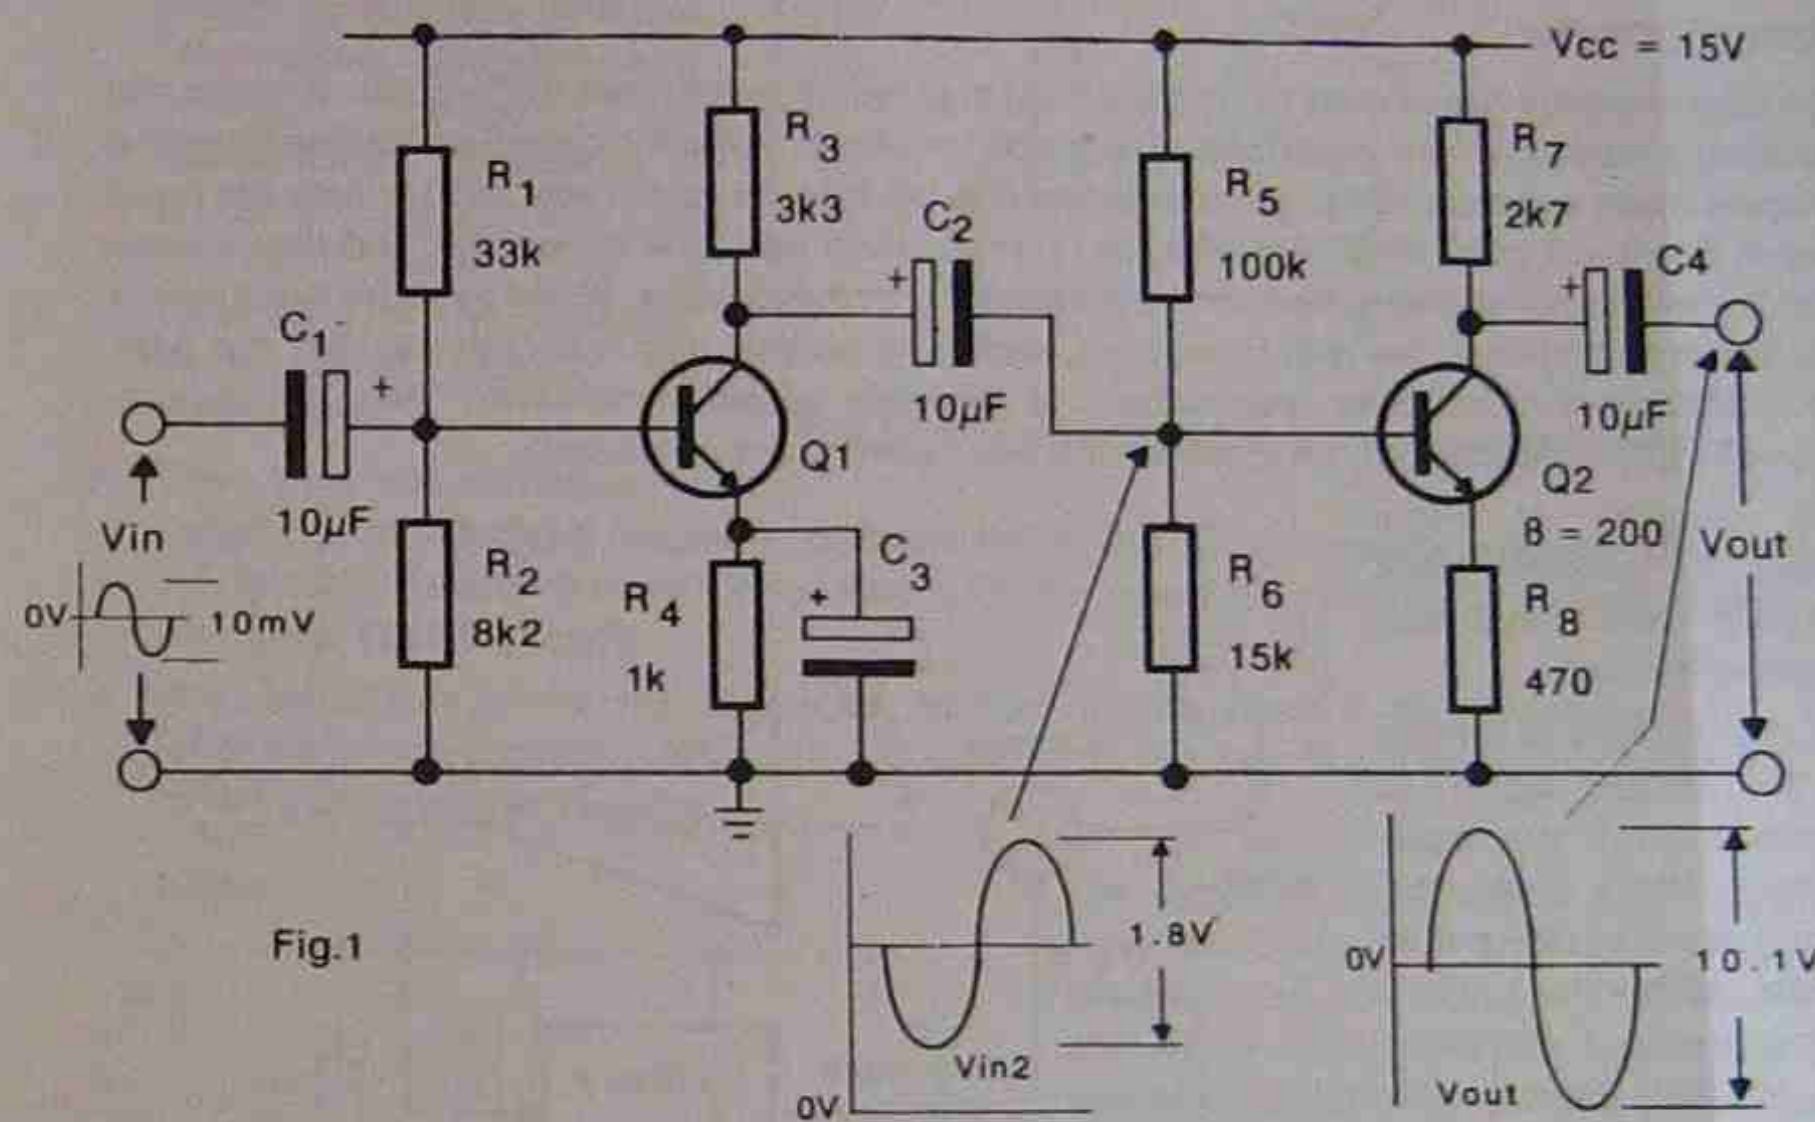

Fig.1
1. For the circuit of Fig.1, calculate the following: